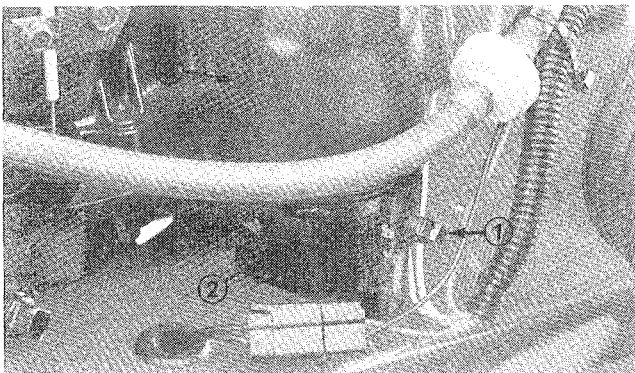

Figure 16
- b. Remove the oil filter drain plug located at the base of the oil filter adapter (Fig. 16). Drain oil into pan.